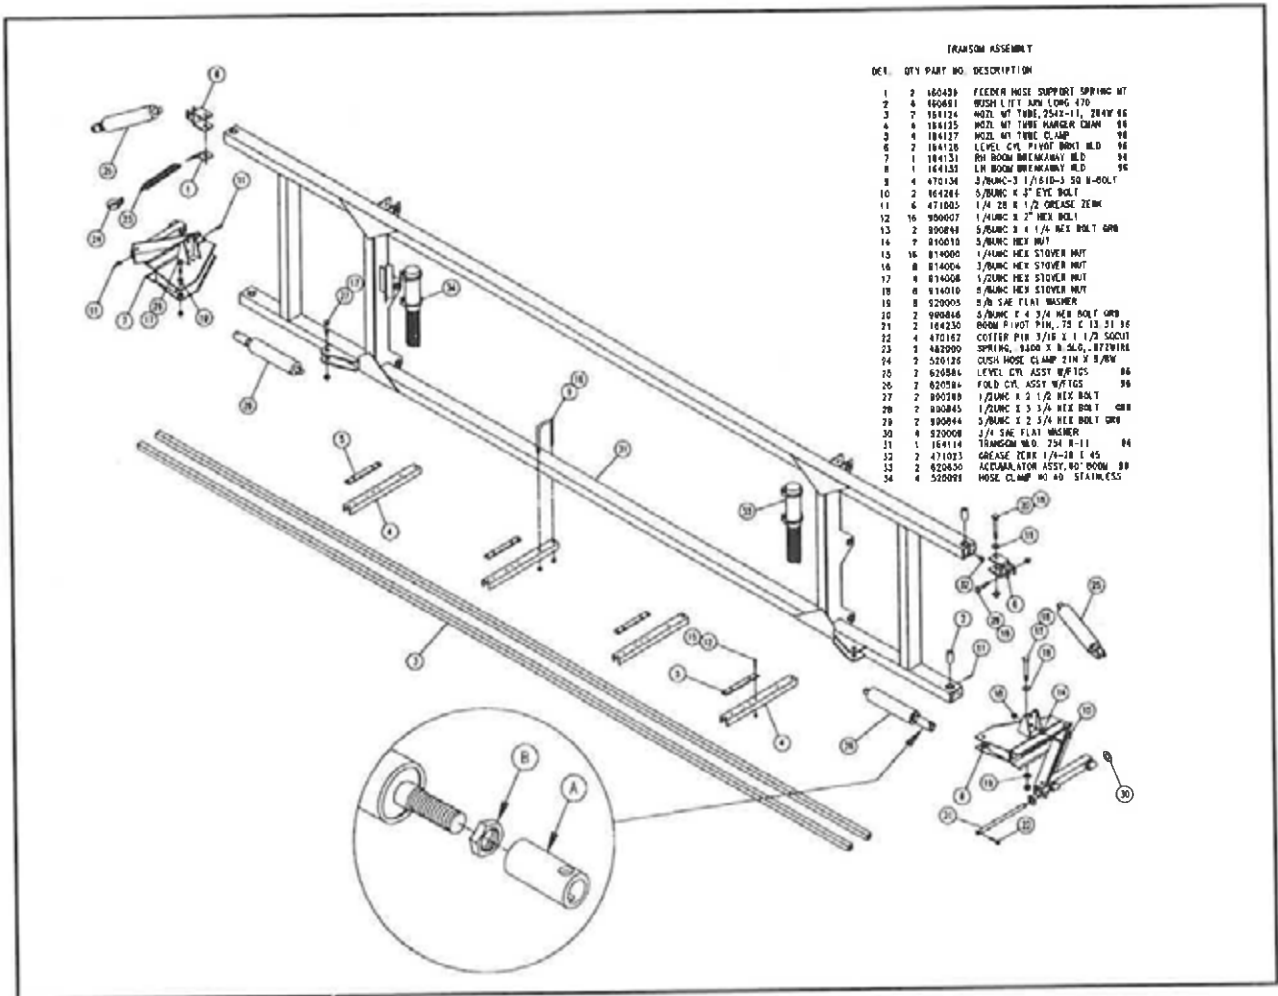

FIG 4.7
5. Install the transom weldment (fig. 4.7, item 31).
8. After the outer booms have been installed, adjust the fold cylinder sleeve (page 27, fig. 4.7, item A) until the booms are parallel with the transom. Then use this same adjustment to allow the boom to fold in far enough to locate in the boom cradle. Lock the cylinder sleeve in place with the jam nut (page 27, fig. 4.7, item B).